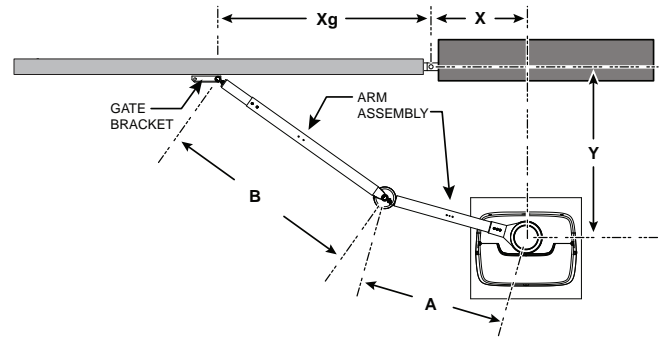

Figure 10. Installation Dimensions
3. Use Tables 1 through 4 to determine the length of the operator arm (A) and the gate arm (B) (Figure 10).
11. Make sure that the operator arm is below the gate arm (Section B above Section A, Figure 10).